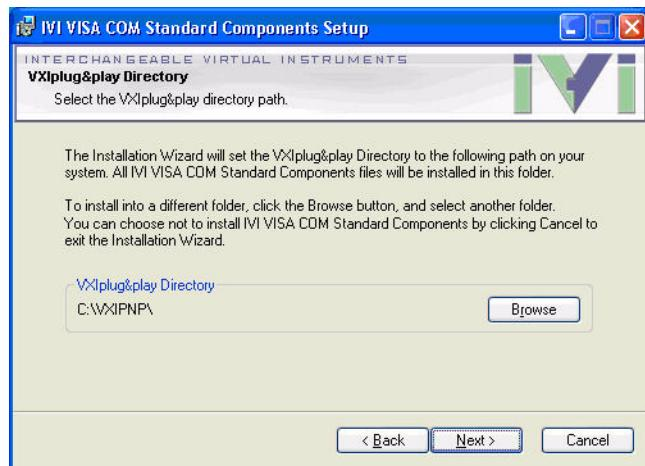

Figure 11 IVI VISA COM Standard Components Installation Wizard
- 3 This opens the **IVI VISA COM Standard Components Wizard** as shown in Figure 11.